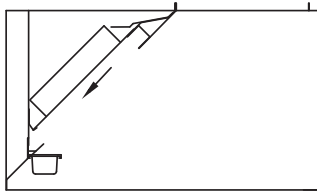

Fig. 22
3. When the filter is even with the bottom rear filter channel, set the filter into the channel; Fig. 22.